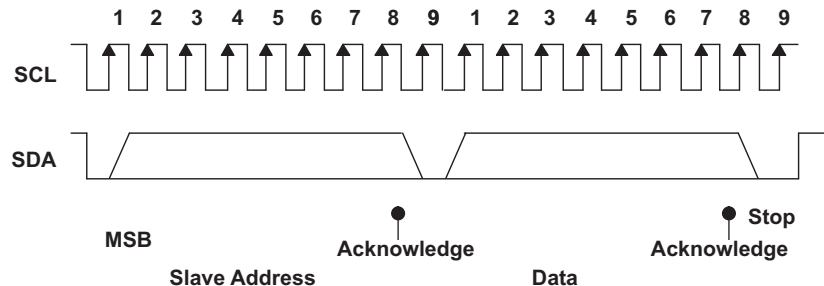

Figure 8. I²C Address and Data Cycles
- The master generates further SCL cycles to either *transmit* data to the slave (R/W bit 1) or *receive* data from the slave (R/W bit 0). In either case, the *receiver* must acknowledge the data sent by the *transmitter*. So, an acknowledge signal can either be generated by the master or by the slave, depending on which one is the receiver. The 9-bit valid data sequences consisting of 8-bit data and 1-bit acknowledge can continue as long as necessary (see Figure 8).